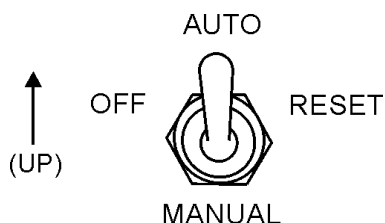

Figure 50. Off/Manual Auto Switch (AUTO)
2. Place the Off/Manual/Auto switch (Figure 50) in the **AUTO** position (up). Observe that the engine begins to crank.